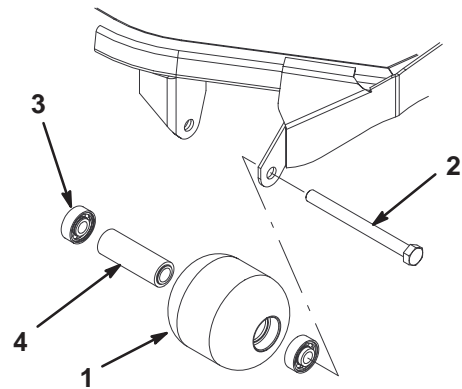

Figure 16
- Remove roller mounting bolt (Fig. 16).
- Inspect roller housing, bearings, and bearing spacer for damage (Fig. 16). Replace damaged components and re-assemble.
- Press first bearing into roller housing (Fig. 16). Press on outer race only or equally on inner and outer race.
- Insert spacer (Fig. 16).
- Press second bearing into roller housing (Fig. 16) pressing equally on inner and outer race until the inner race comes in contact with spacer.